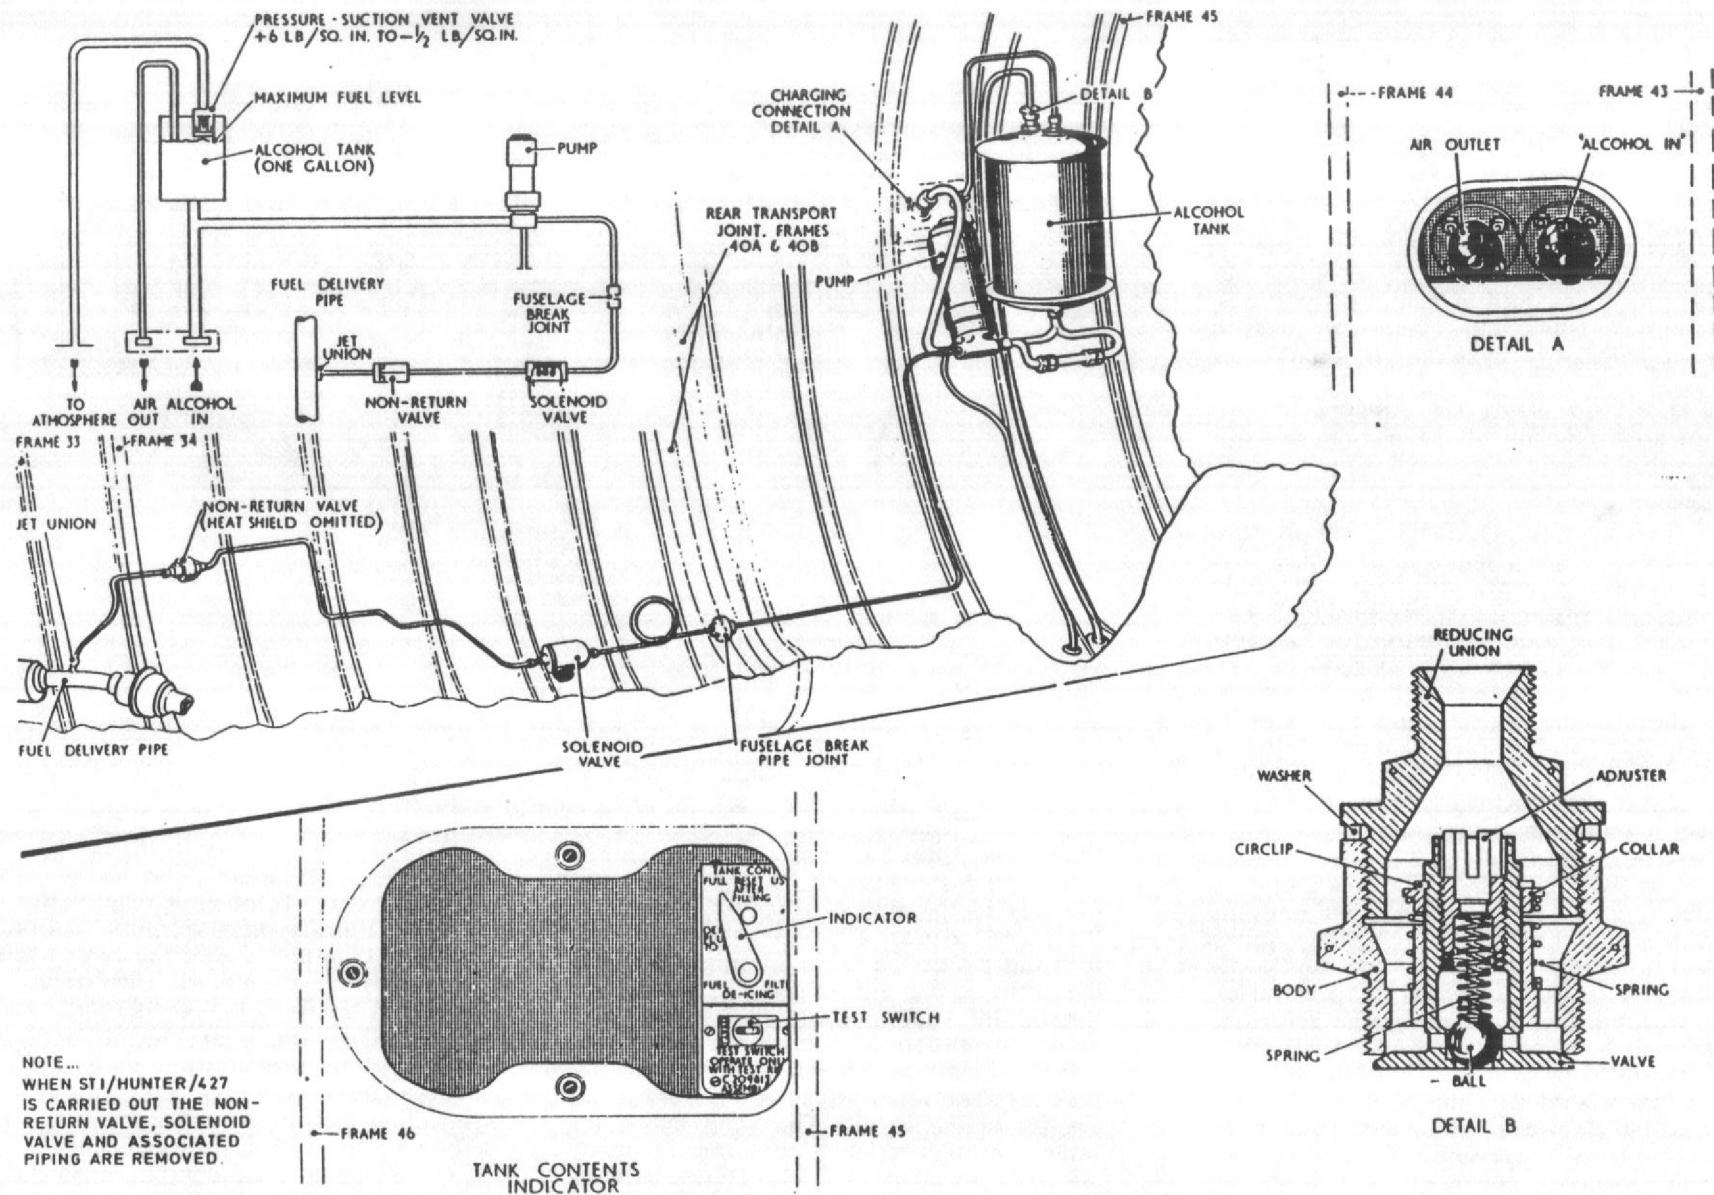

Fig. 6A Fuel filter de-icing system
**Fuel filter de-icing system (Fig.6A)**
18A. Aircraft fuel normally contains a small quantity of water dissolved from the atmosphere. As the fuel temperature falls, some of this water comes out of solution with the fuel and forms ice crystals if the temperature is below about -10 deg. C. To eliminate a blockage of the system due to an accumulation of ice crystals on the engine fuel filter element, a fuel filter de-icing system is provided. The fuel filter de-icing tank, which is mounted in the rear fuselage, is provided with a suction and pressure relief valve (Fig.6A). The valve is set to maintain a pressure of 6 to  $6\frac{1}{2}$  lb/in2 in the tank and a suction of  $\frac{1}{2}$  lb/in2, with an airflow through the valve of approximately 1 cu. ft/min. (Refer to
**Testing of pressure and suction relief valve—fuel filter de-icing tank (fig. 6A)**